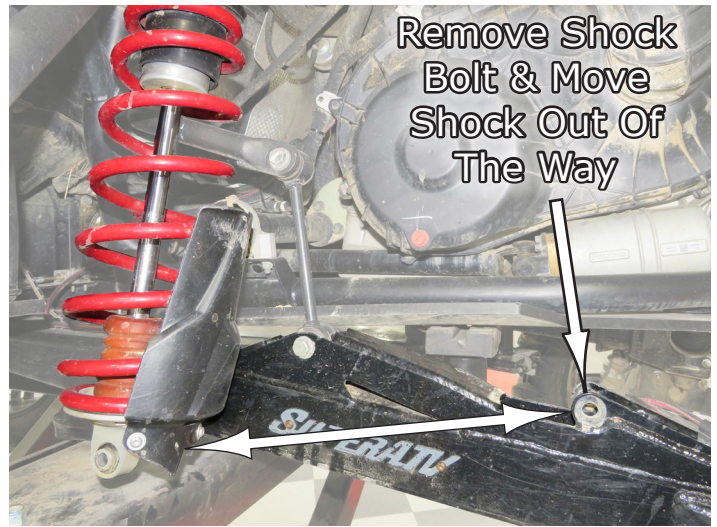

Fig.1
1. With the transmission placed in PARK, remove the Left Rear Shock Guard (3 Torx #25 screws if you have one), and lower shock bolt, and move Shock out of the way. See **Fig.1**.